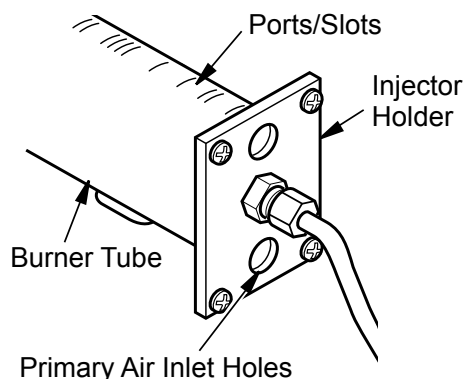

Figure 35 - Injector Holder On Outlet Burner Tube
2. Inspect burner, pilot, and primary air inlet holes on injector holder for dust and dirt (see **Figure 35**).